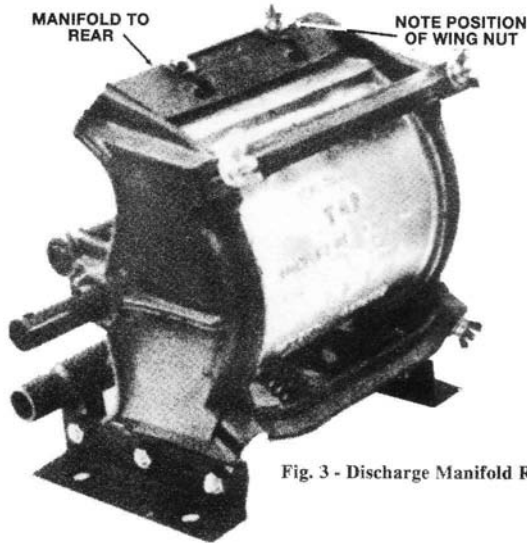

Fig. 3 - Discharge Manifold Rearward
Squeeze Pumps are shipped with the discharge manifold in the rearward or non-operating position. Before mounting the pump, position the discharge manifold in the forward or operating position and secure by tightening the wing nuts as shown in figures 3 and 4.
1. Unscrew (about 1/2 inch) the wing nuts holding the spring anchor bar to the pump frame (Figure 3). this releases pressure against the hoses.
2. Loosen the wing nuts on the discharge manifold and shift the manifold rearward as shown in Figure 3.